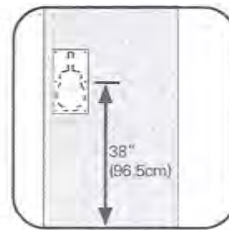

Figure 1
**NOTE:** Centerline of two middle holes should be about 38" (96.50cm) from the floor. (Fig. 1) 38" is recommended.